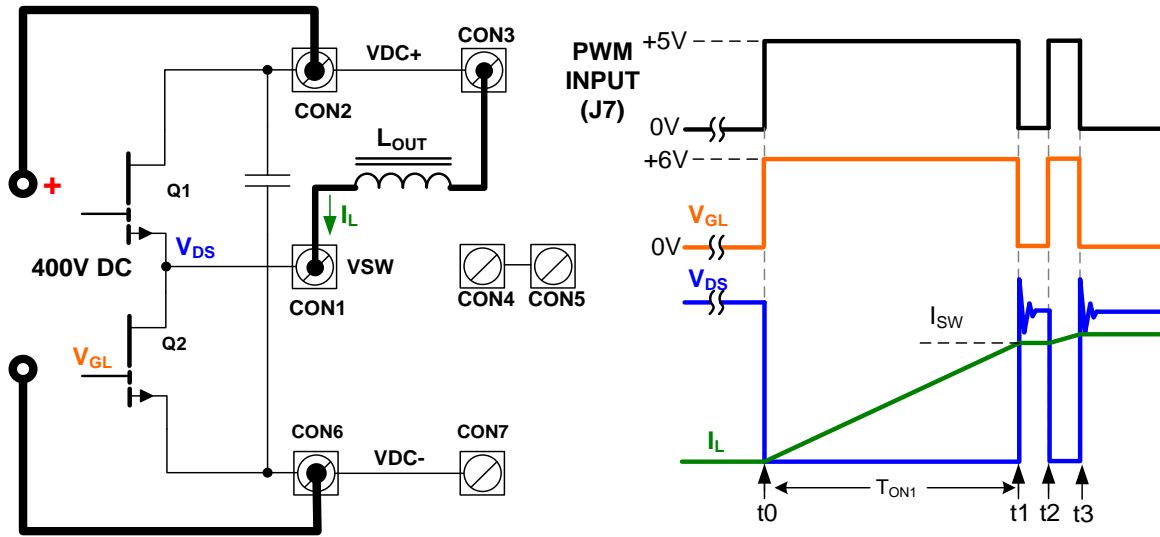

Figure 13 Double pulse test setup
The circuit configuration and operating principle can be found in Figure 13:
- d. Set High voltage (HV) DC supply voltage to 0V and ensure the output is OFF. Connect HV supply to **CON2** and **CON6**.
- c. Set up signal generator to create the waveforms as shown in Figure 13. Use equation $I_{sw} = (V_{DS} * T_{ON1}) / L$ to calculate the pulse width of the first pulse and ensure the I_{sw_max} is $\leq 30A$ at 400VDC.